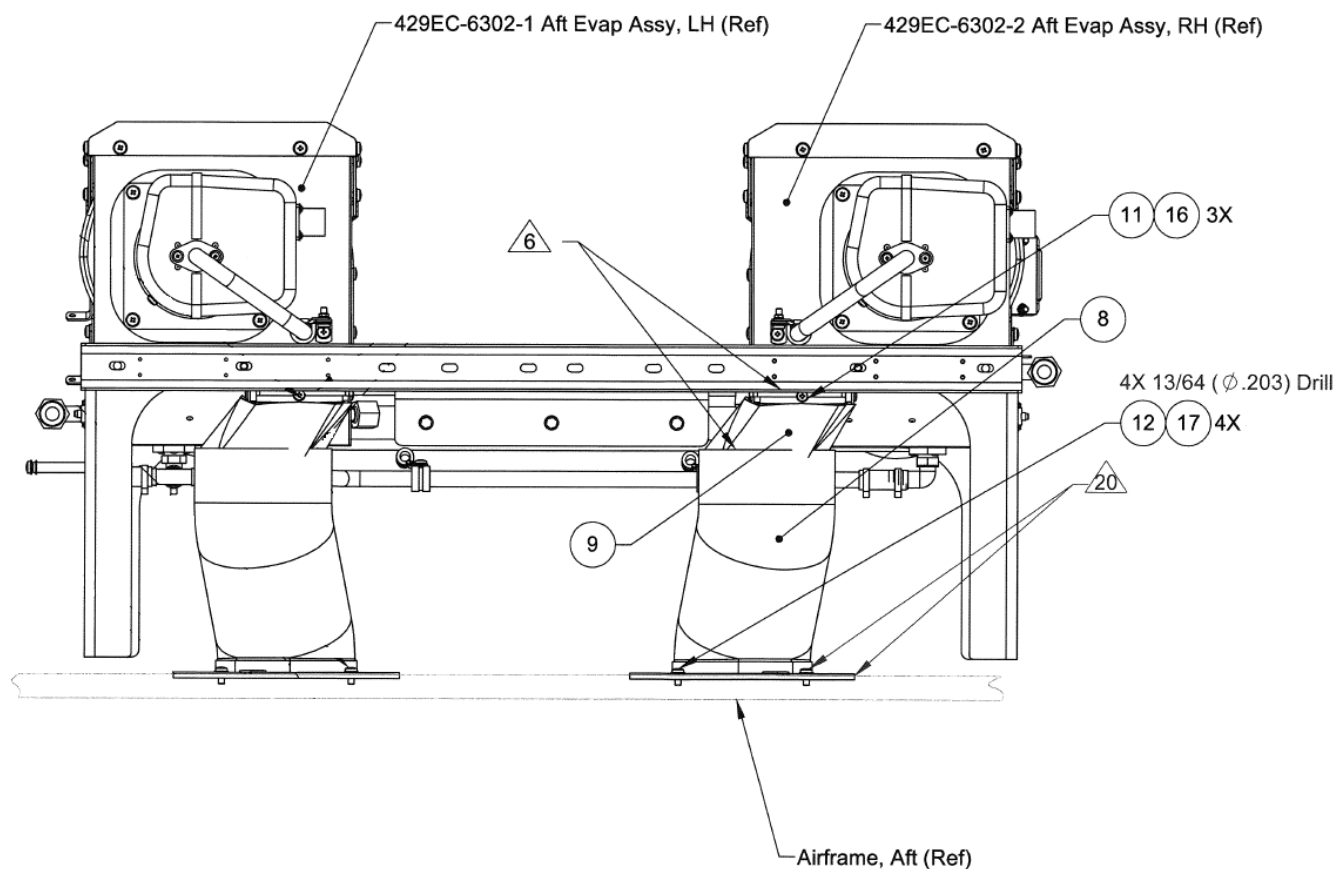

Figure 12: LH Aft Evaporator Outlet Ducting – View Looking Forward
- b. Install LH aft evaporator as follows (Figure 12, 13, 14, & 15):
- 1) Prior to installing LH aft evaporator assembly, fasten 429EC-6820-2 (Item 9) upper outlet duct assembly to outlet of aft evaporator with attaching hardware. (Figure 12)
- 3) Locate LH aft evaporator with aft evaporator outlet duct 429EC-6820-2. Install as shown. (Figure 12)
- 9) Rotate 429EC-6820-1 lower outlet duct assembly to be concentric with Ø 4.40 hole in airframe, aft. Match-drill 429EC-6820-1 lower outlet duct assembly flange with holes in airframe (4X each). (Figure 12)
- 10) Fasten 429EC-6820-1 lower outlet duct assembly to airframe, aft with indicated hardware and existing inserts. (Figure 12)
- 11) Seal completely around joint using GE RTV103 Black Silicone Rubber Adhesive Sealant (4 Plcs). (Figure 12, Flag Note 6)
- 13) Seal all around Flange and Hardware using Pro Seal 890-B2. (Figure 12 & 19, Flag Note 20)